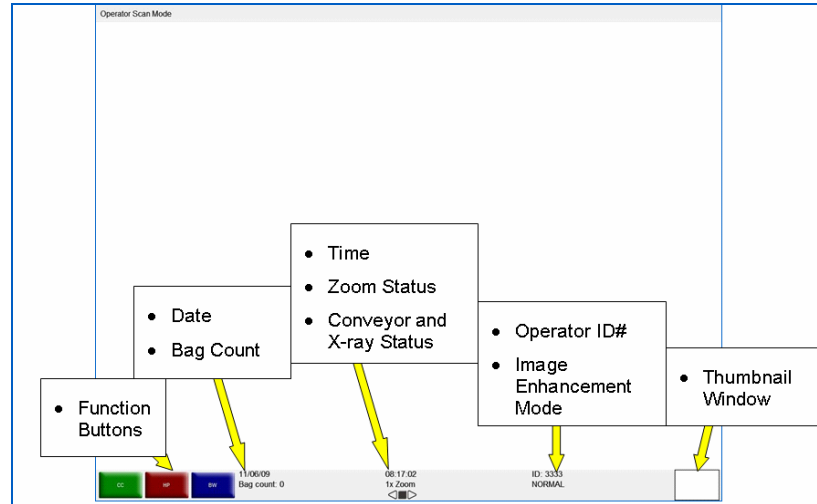
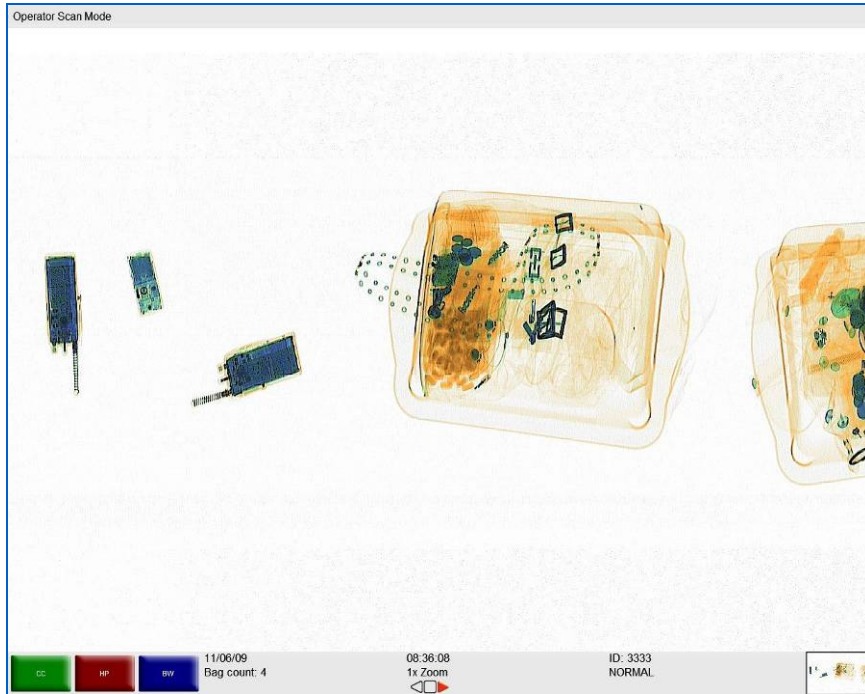
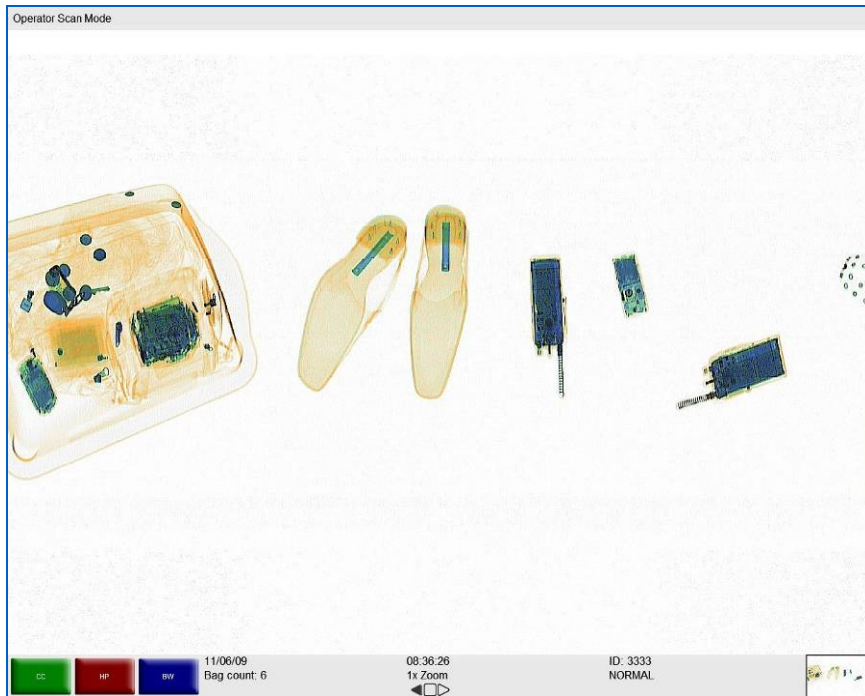

Figure 77: Main Operation Screen
Figure 78: Forward / Thumbnail Window
Figure 79: Reverse
- Three Programmable Function button indicators (in the case of Figure 77 the buttons read CC, HP and BW).
- Conveyor status, i.e. Stop, Reverse or Forward, (see Figure 78 and Figure 79).
- Thumbnail Window (see empty window in Figure 77 and thumbnail in window on Figure 78)